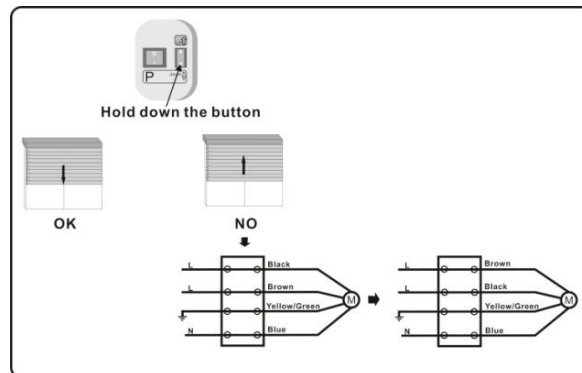

Fig.9
2.2 Check the rotation direction, Pressing Up Or Down button, the roller shutter will move in the correct direction. If not, Exchange the wire connection between black and brown wires. Refer to Fig.9